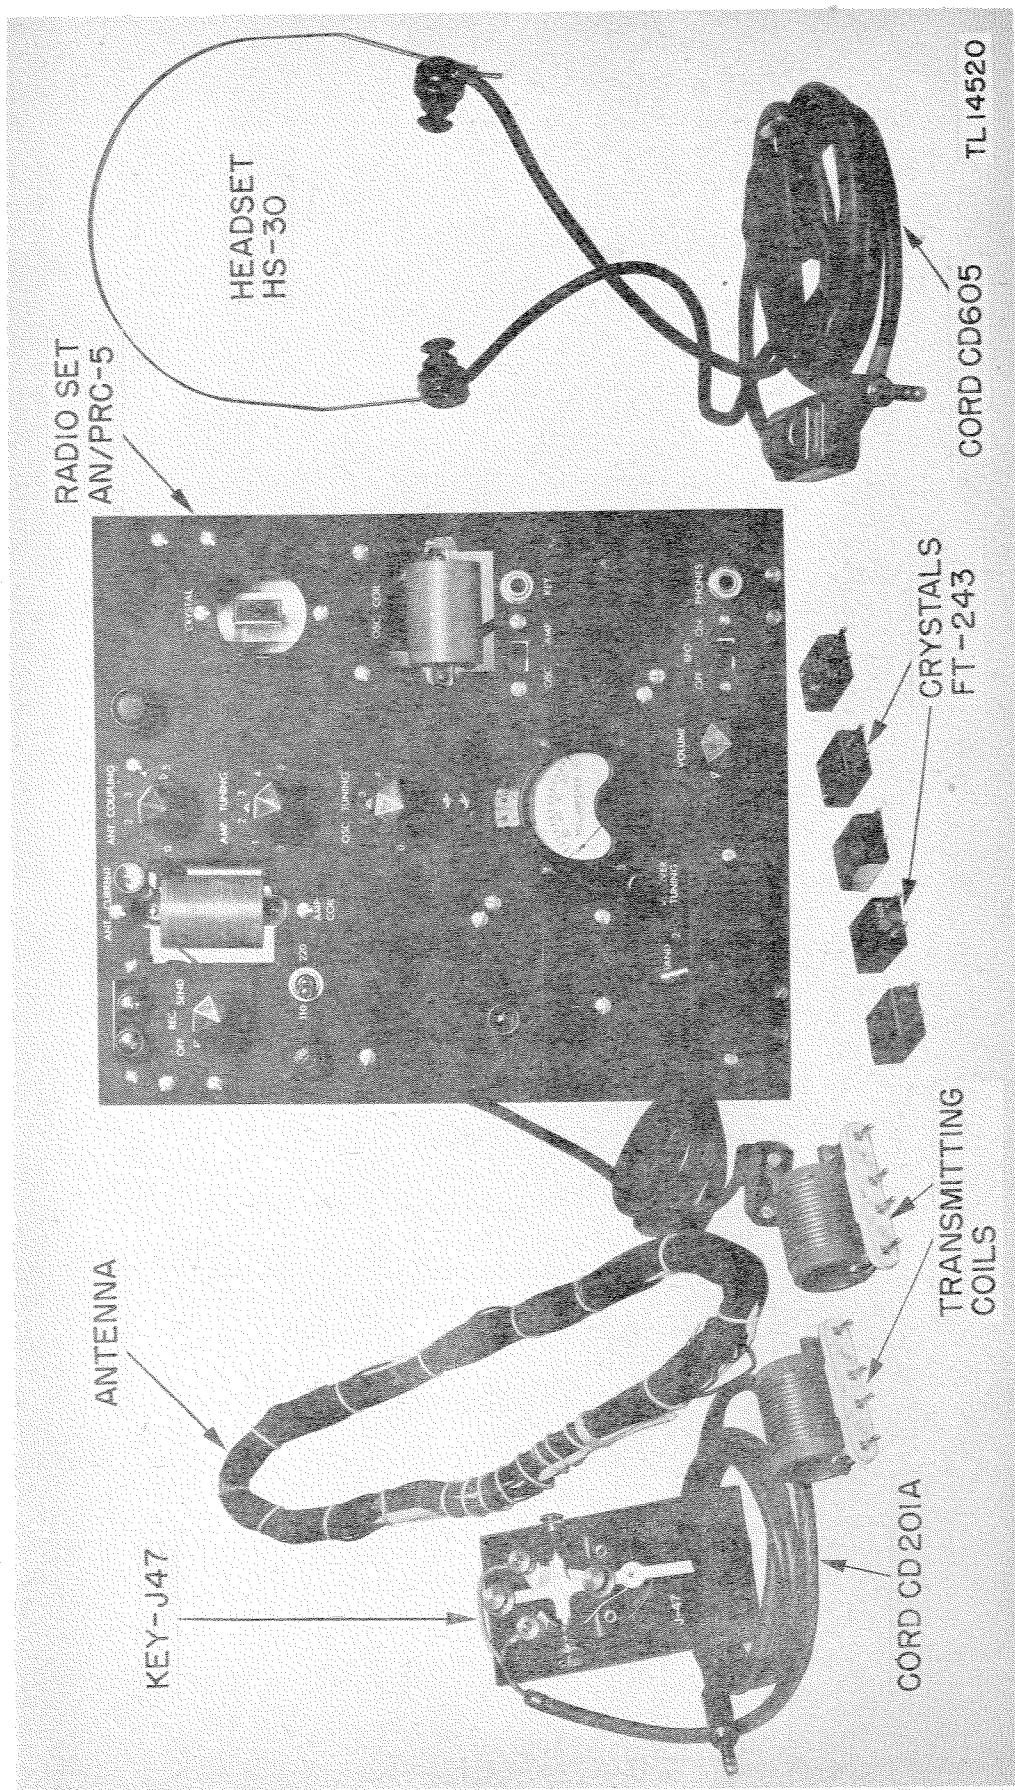

Figure 1. Radio Set AN/PRC-5, front panel and operating
- (1) 4,500 to 8,000 kilocycles.
- (2) 8,000 to 16,000 kilocycles.
5. SOURCE OF POWER (fig. 1). The equipment is designed for operation from a 110- or 220-volt, 50- to 60-cycle, single-phase source. The equipment is set for operation from a source of either voltage by manipulation of the switch marked 110-220, located near the FUSE receptacle in the upper left-hand corner of the transceiver unit.
7. TRANSCEIVER (fig. 1). The transmitter and the power supply form the upper half of the transceiver unit, and the receiver forms the lower half. All of the controls for the transceiver unit are mounted on a single panel covering the face of the unit (fig. 1).
9. HEADSET (fig. 1). Headset HS-30, furnished with the equipment, plugs into the PHONES jack on the transceiver unit by means of Plug PL-55 attached to the end of headset Cord CD-605. The 256-ohm primary winding of Transformer C-410 is connected to the headset, and the 8,000-ohm secondary winding is connected to the receiver output by means of the complete headset and cord assembly.
10. KEY (fig. 1). Key J-47, furnished with the equipment, plugs into the KEY jack on the transceiver unit by means of Plug PL-55 attached to the end of Cord CD-201-A.